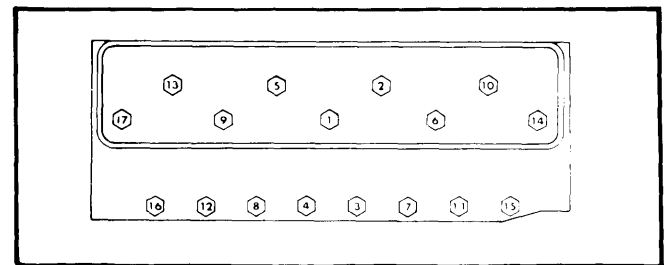

Fig. 2 Diagram Showing Correct Cylinder Head Tightening Sequence
**Installation** - Gasket surfaces of both head and cylinder block must be clean. Use sealer if equipped with steel gasket. If asbestos gasket is being used, sealer is not required. Position heads and gaskets on cylinder block. Coat threads of bolts with a sealing compound. Tighten cylinder head bolts in sequence shown in Fig. 2. To complete installation, reverse removal procedure.